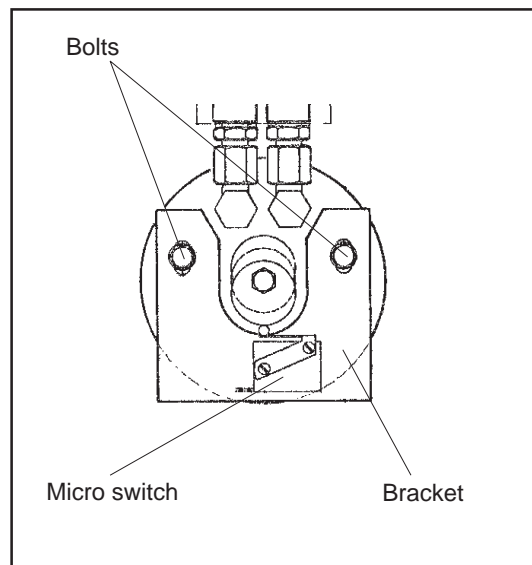

Figure 5.
5. Remove the microswitch mounting tab from the motor, see figure 5.